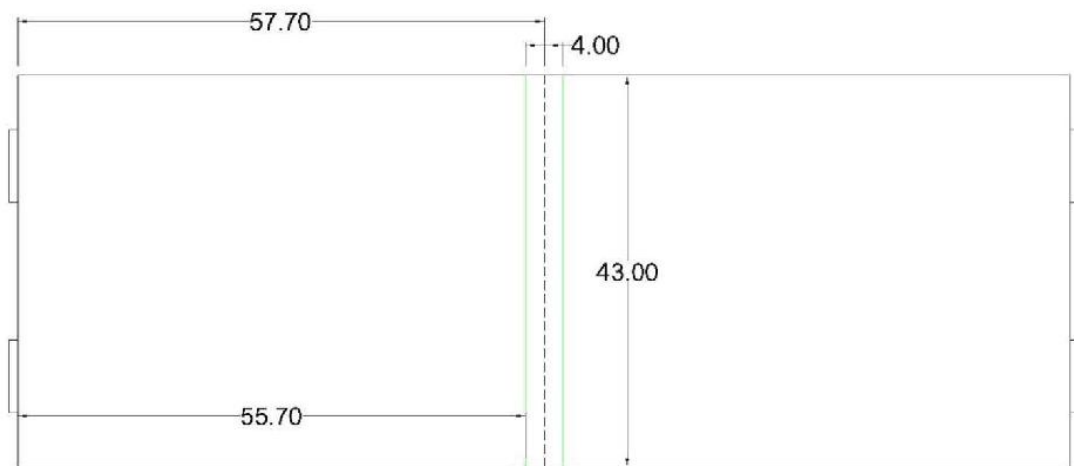

Figure 76: Dimensions for lip on left door
6.3.8. Weld the 4 hinges onto the doors according to the dimensions below. Making sure that the orientation of the hinges is correct (see Figure 76). Also the top of each hinge should be welded to the door and the bottom should be welded to the baking chamber flange